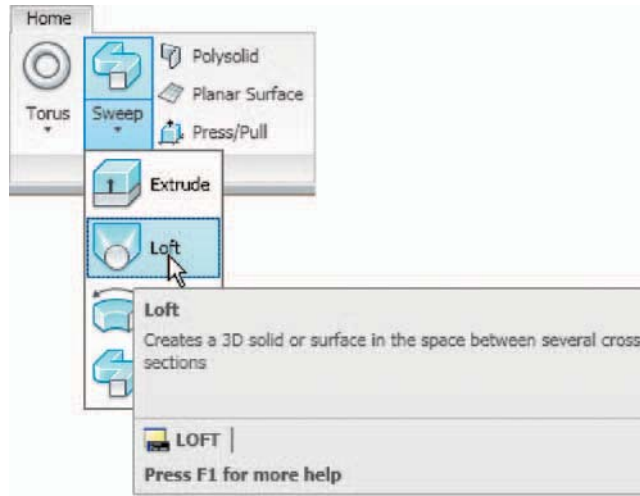

Fig. 12.42 Selecting the **Loft** tool from the **Home/Modeling** panel
3. Call the **Loft** tool with a *click* on its tool icon in the **Home/Modeling** panel (Fig. 12.42).